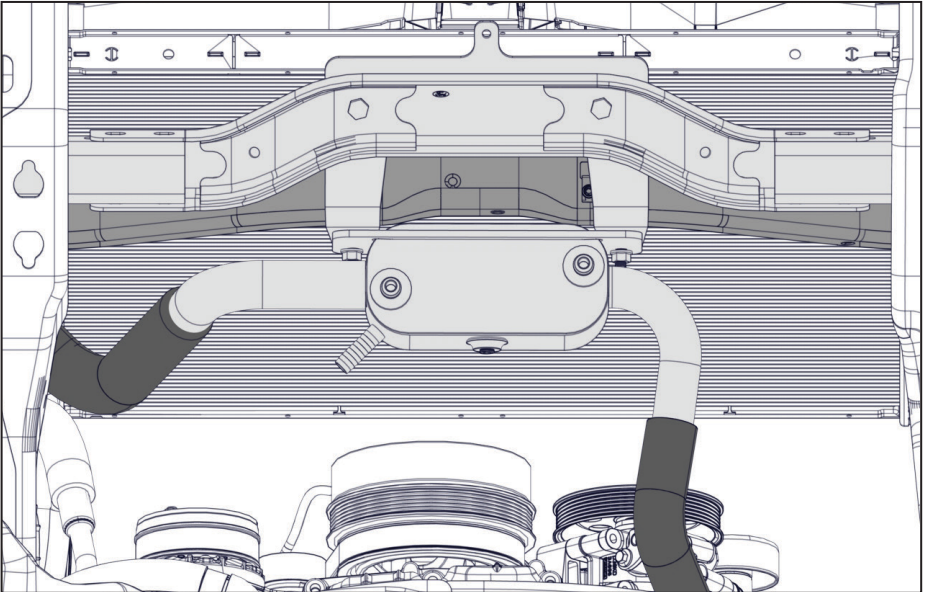

Figure 12 — Install coolant hoses assembly
- ☐ Connect the driver side radiator hose to the VMAC cooler (Figure 12).
- ☐ Connect the modified passenger side radiator hose to the VMAC cooler and radiator (Figure 12).